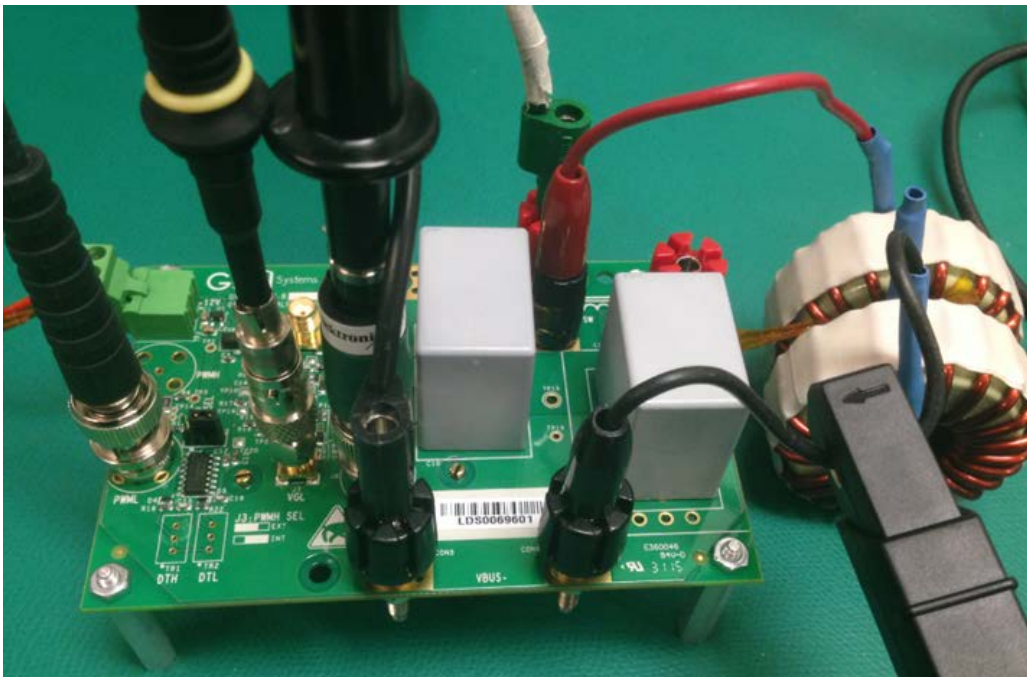

Figure 11 - Example of pulse Test set up
5. Connect the probes as shown in **Figure 11**, for the following measurements:
6. Set the High Voltage (HV) DC supply voltage level to 0V and ensure that the output is OFF. Connect the HV supply output to **CON1 (VBUS+)** and **CON5 (VBUS-)**. Attach the external inductor between **CON3 (VSW)** and **CON6 (VBUS-)**.